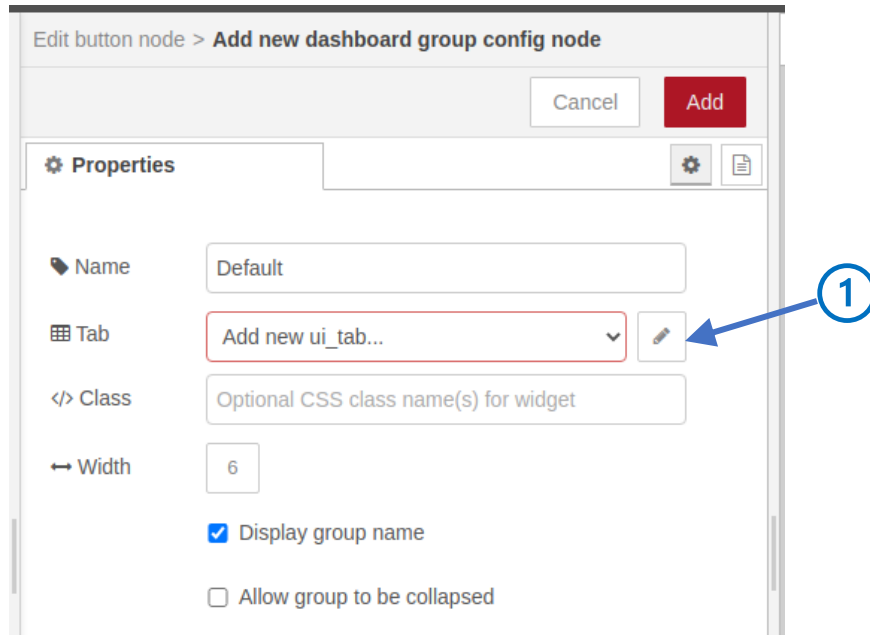

Figure 5-123: Add New Dashboard Group Window
- Click Add ② and you will be returned to the new dashboard group dialog of Figure 5-123.